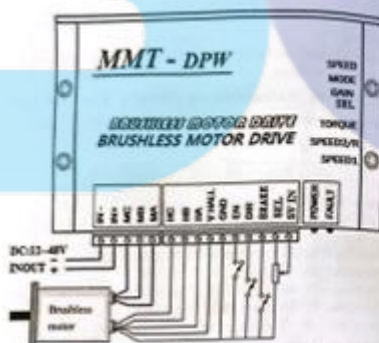

Figure 2
1. It must be equipped with a fast fuse and electromagnetic relay contactor between power input end of driver and power (storage battery) to realize emergency power off in case of suddenly power cut. See Figure 2